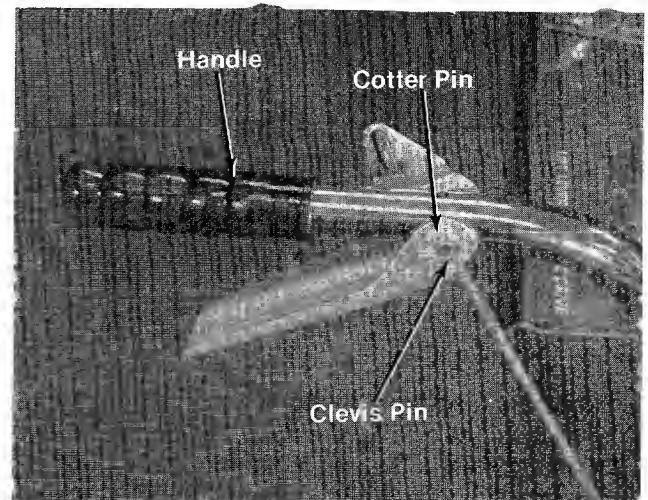

FIGURE 9
11. Assemble the clutch handle to the right handle with the drilled stud and cotter pin. (See figure 9.)